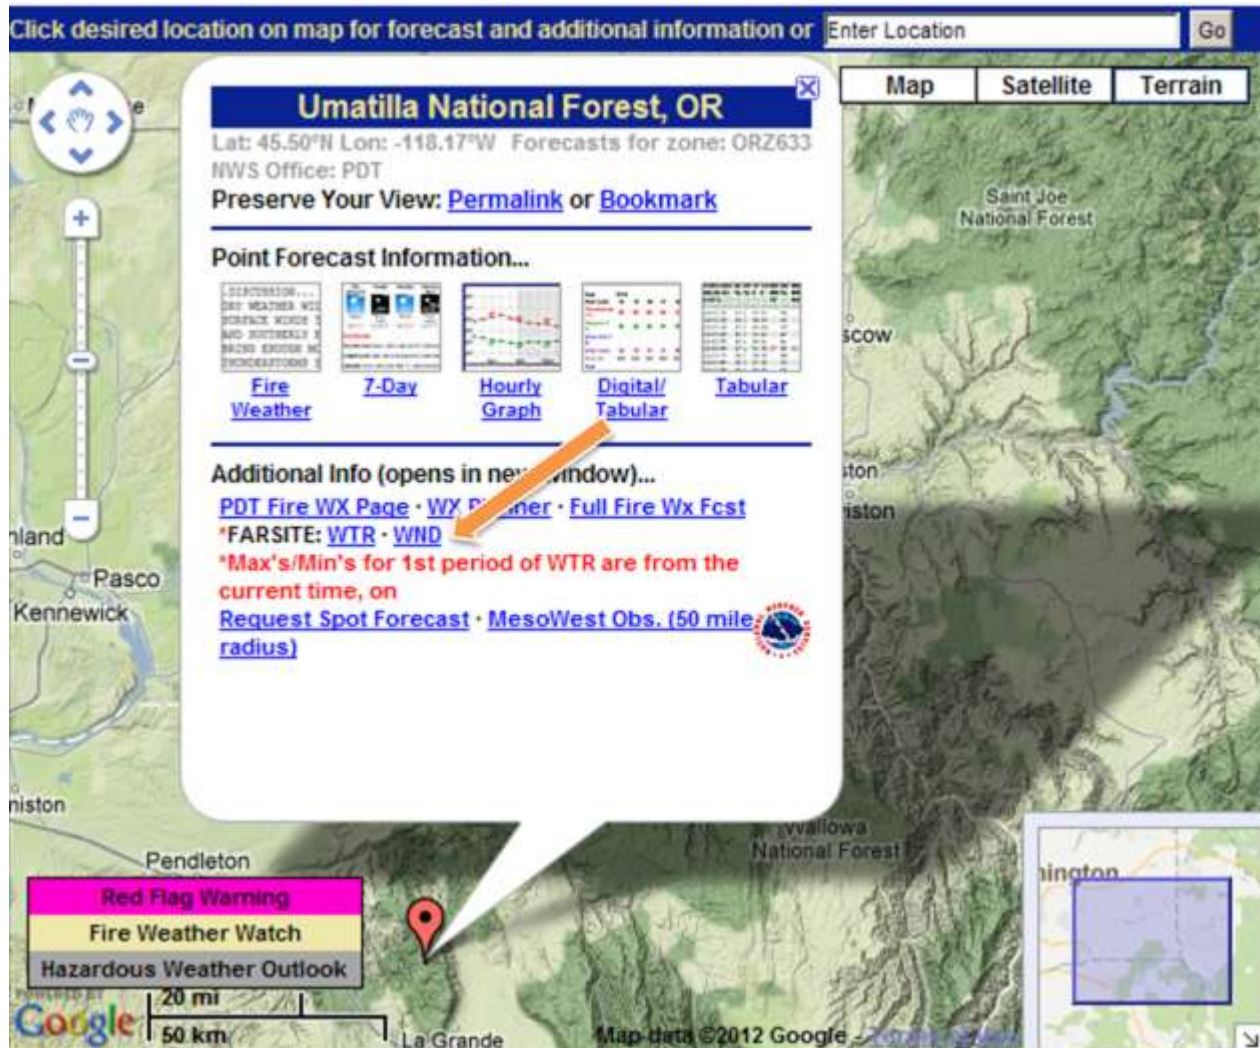

Figure 3-38—Pop-up window for the clicked on location on the map and the link to the WTR and WND files highlighted.
- 2) Zoom into north eastern Oregon and click on the map near the Mt. Emily project area which is just north of La Grande (fig. 3-38).
- 3) Click on the **WTR** link to the right of FARSITE in the pop-up window (see fig. 3-38). This will open a new browser window with the WTR data for the past week (fig. 3-39).
- 4) Click on the **WND** link to the right of FARSITE in the pop-up window (see fig. 3-38). This will open a new browser window with the WND data for the past week (fig. 3-42).